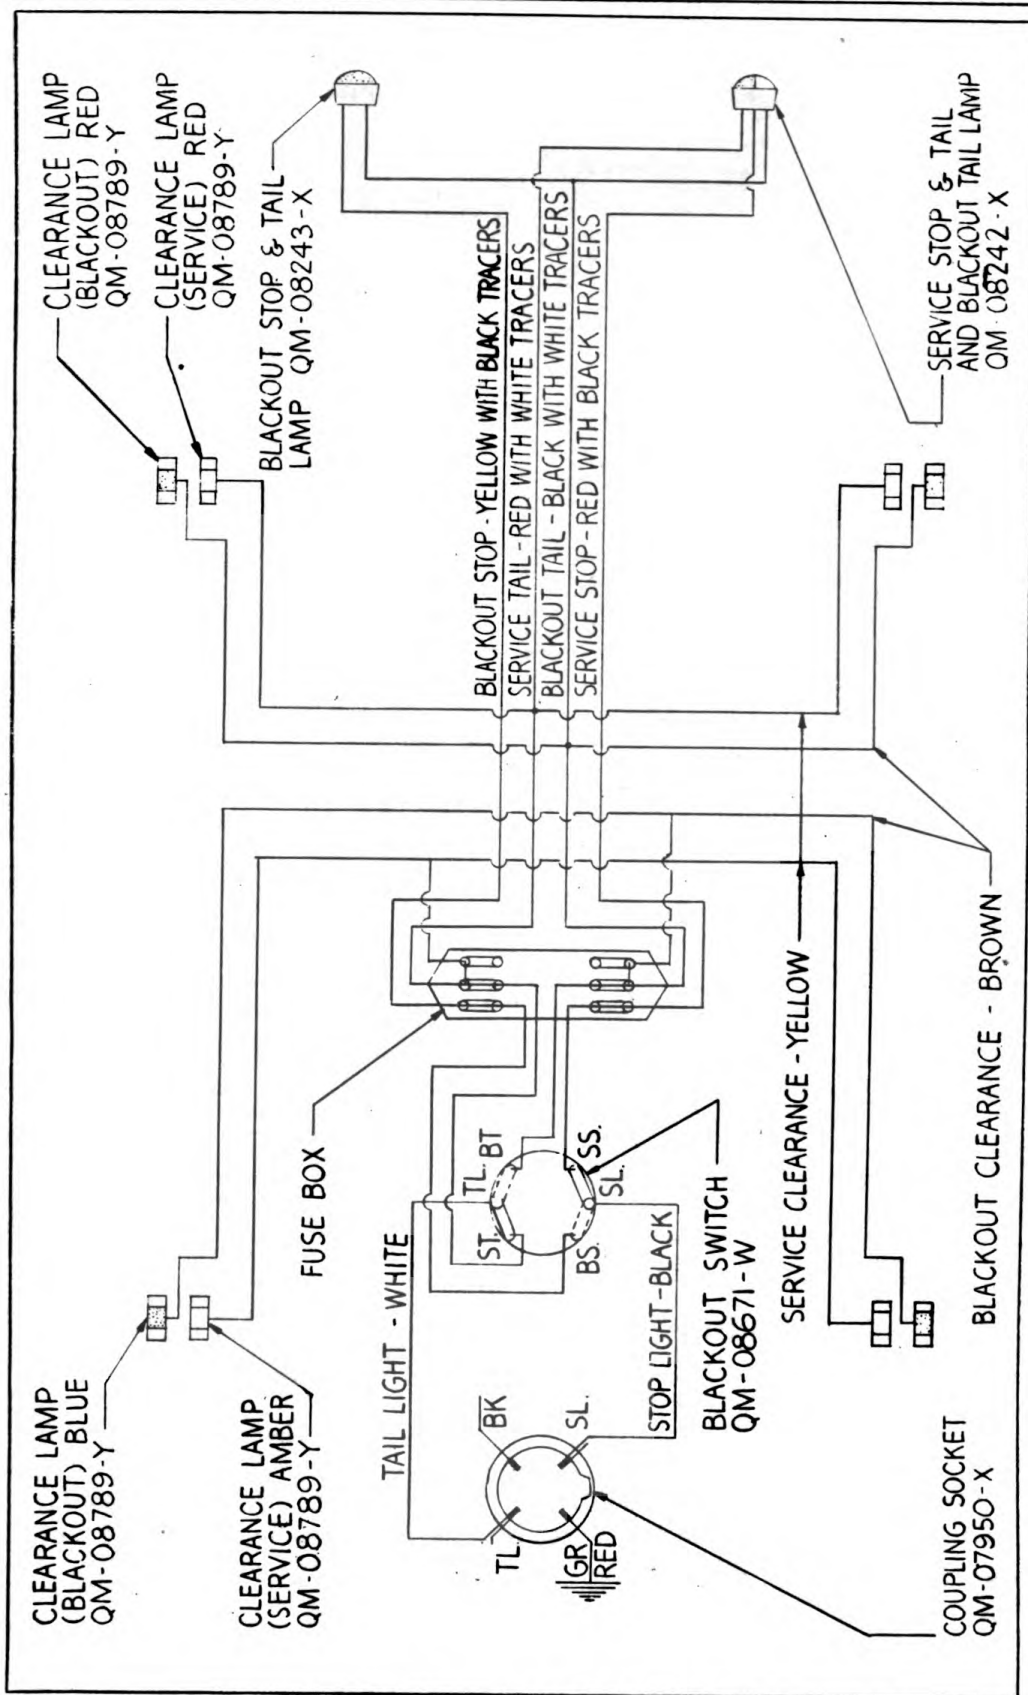

FIGURE 40. WIRING DIAGRAM
1. **WIRING.**—The general electrical circuit diagram shown in Figure 40 illustrates all of the electrical circuits used on this vehicle. With this diagram, the various circuits can be traced and wiring replacement made. All electrical units are shown in their relative position. Each wire in the electrical system is of a distinctive color. A key to these colors will be found on the circuit diagram. (Fig. 40.)